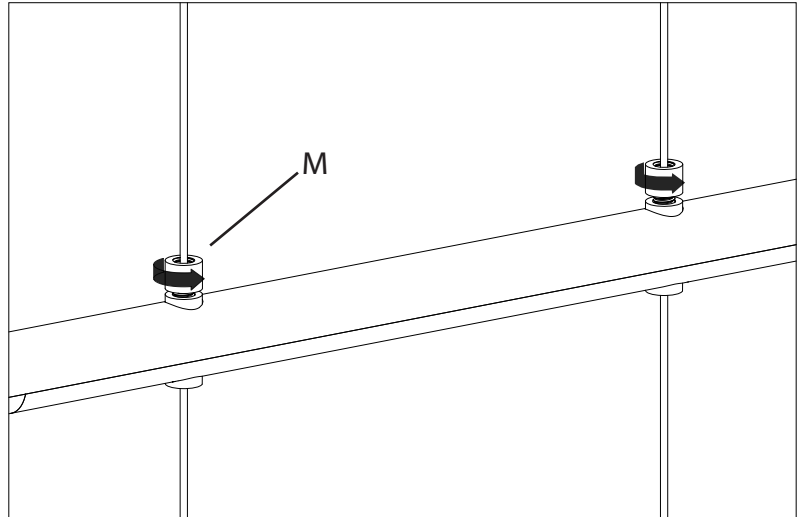
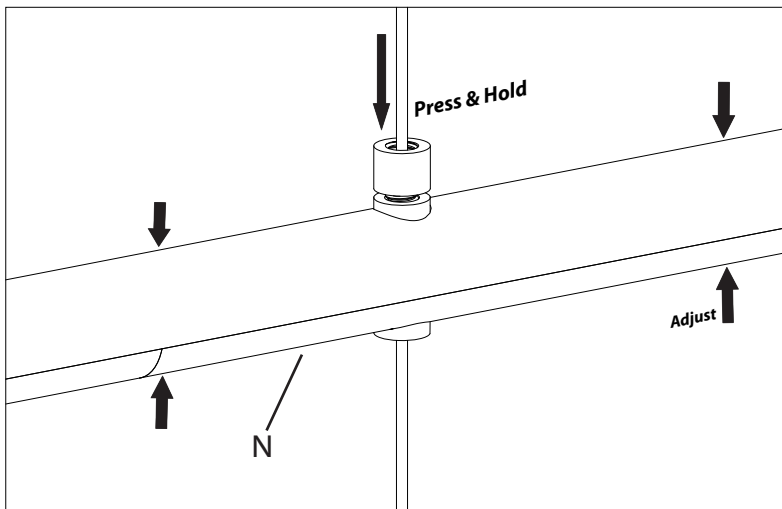

Fig. 1
Fig. 2
6. Loosen the caps on the cable grippers (M) (Fig. 1). Press and hold the cap and feed the cable through the cable gripper. Adjust the height of the arm (N) up or down to desired position. Release the gripper to set cable position and retighten the cap (Fig. 2). Repeat for each remaining arm.